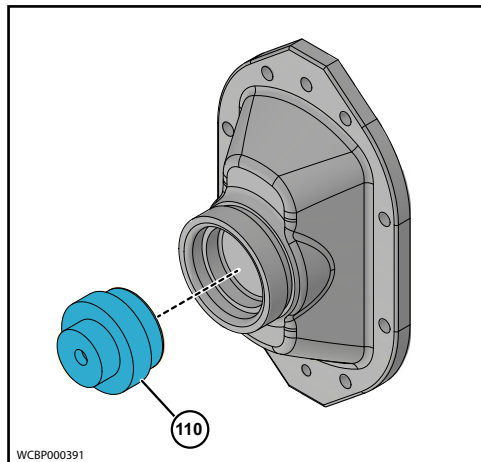

Figure 99 - Install Diaphragm Bushing
2. Install the Diaphragm Bushing (110) into the Cover Port, as shown in Figure 99.